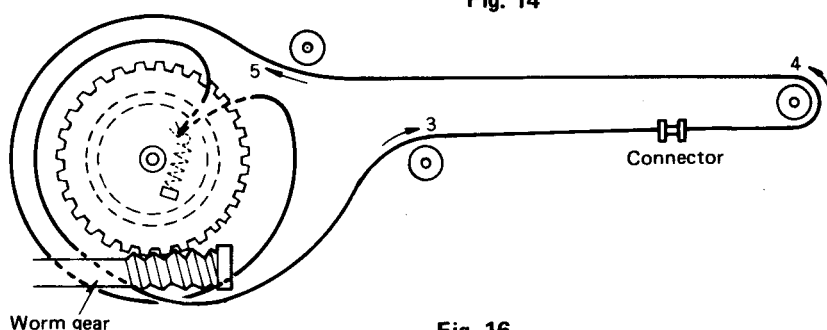

Fig. 16
5. Holding the rope set over the arm drive wheel with the hand, set the rope over the wheels in the order of 3 ~ 5 in Fig. 16.
7. Rotate the worm gear by hand and check that the tonearm operates, and then fit the washer ④ and "C" ring ③ in place.